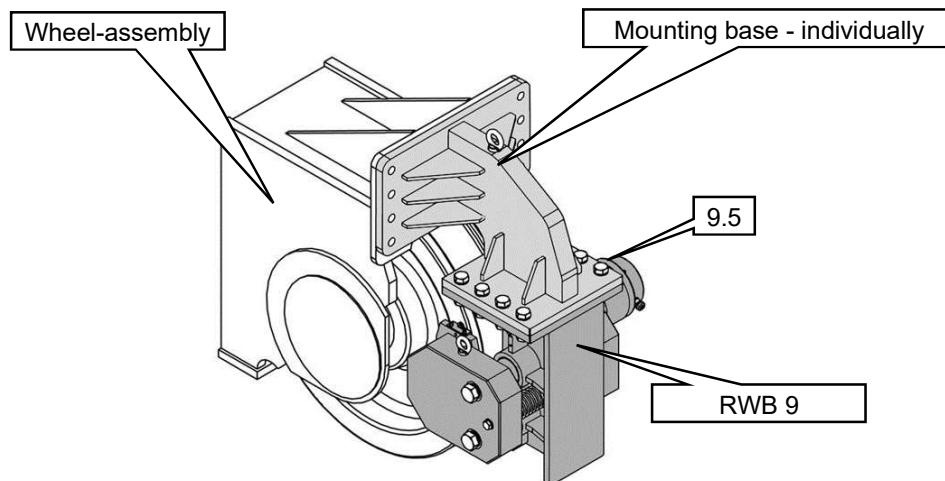

Fig. 2:
- Push the brake onto the brake wheel (Fig. 2 - Observe dimensions)